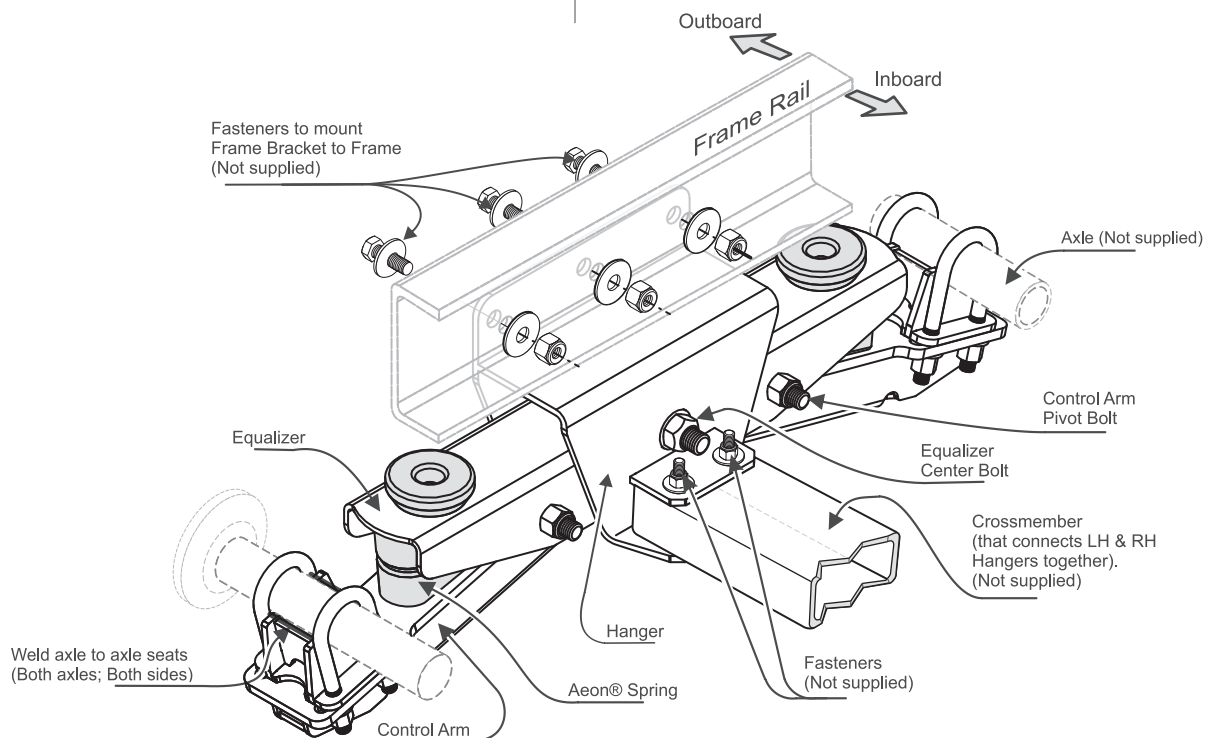

Fig. 1 Installation of suspension to trailer frame
2. Locate hangers on frame rails, opposite to each other. Mate inboard corner faces of each hanger with outboard corner faces of its corresponding frame rail (fig. 1). Move hangers along frame until center of hanger lines up with mark on frame rail at each side. Clamp hangers to frame.
4. Install crossmember: Make a crossmember using a 2"x4"x3/16" Hollow Structural Steel, ASTM A500 Grade C or G40.21 Grade 350W). The length of crossmember must be the measured width of trailer frame less 10-1/2". Locate crossmember between hangers: position each end of it between two horizontal plates that are attached to inboard side of hanger. Make sure hangers are perpendicular to bottom surface of trailer. Tack weld and then weld crossmember to hangers (weld from top and bottom). Crossmember can also be bolted to hanger (fig 1): use existing holes as a template to drill holes. Use 1/2" bolts (3-1/4" long), washers and nuts to attach crossmember to hangers. Apply a full torque of 70-75 ft- lbs to each nut.
7. Weld axle seats to axles (along axle only), as shown in fig. 1. Use 3/16" fillet weld. Use weld material E70XX.